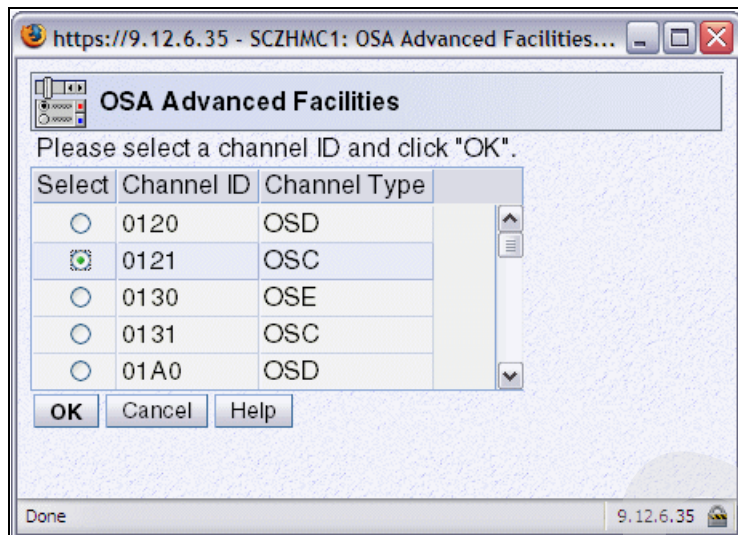

Figure 3-27 HMC - OSA Advanced Facilities (OSC Channel)
4. Select the radio button for the Channel ID card that you want to export, then click **OK** (Figure 3-27 on page 90).